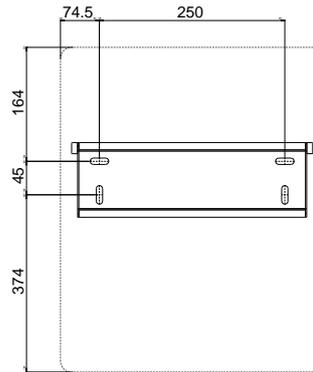

FIG.6-6 Drilling Positions (W x H, 399 x 583mm)
1) Use the wall-mounting bracket as a template and mark the positions of the drill holes, then drill the 4 holes accordingly, as per FIG. 6-6. (Diameter = 11mm, Depth ≥ 55mm).
Note: The external dimensions (W × H) of inverter are shown as dash line in FIG. 6-6.